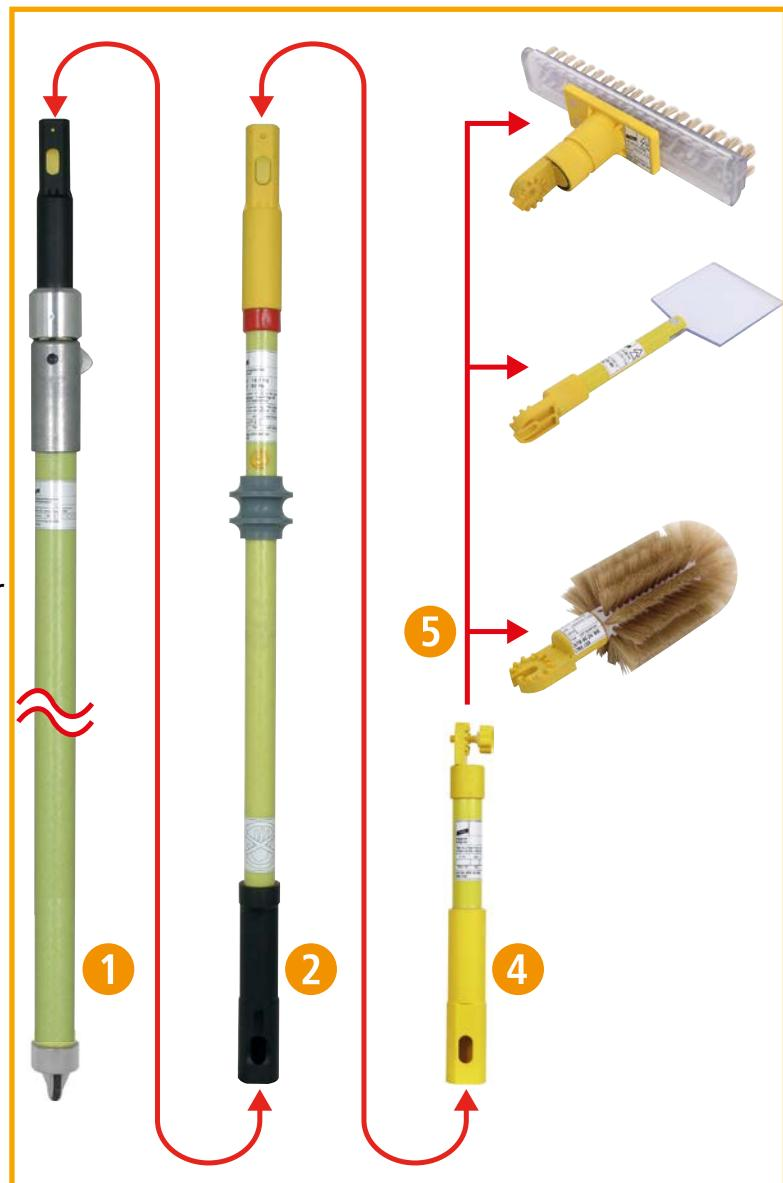

Figure 2 Optional accessories
- ⇒ During use, the insulating stick must only be held by the handle (see Figure 2, page 7).
Further accessories are available specifically for signal lens cleaning (see Figure 2). The extension handle 1 and insulating stick 2 can be used with the optionally available adapter **AD ZK STK 30 360** and other operating heads (brushes and ice scraper) with a gear coupling. You must ensure that the nominal voltage and nominal frequency specified on the rating plate of the insulating stick are not exceeded during use.